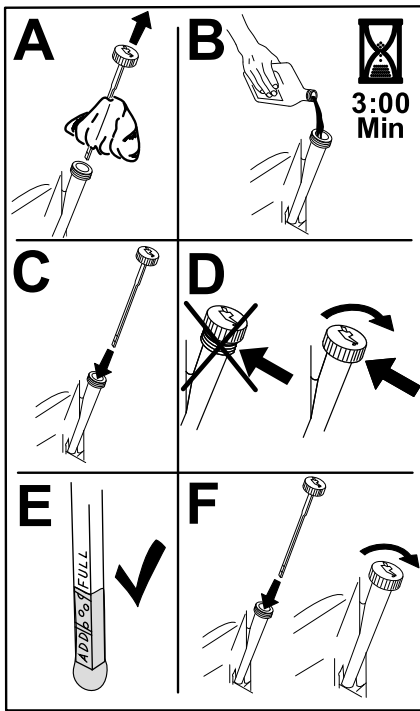

Figure 45
- Slowly pour approximately 80% of the specified oil into the filler tube and slowly add the additional oil to bring it to the Full mark (Figure 45).